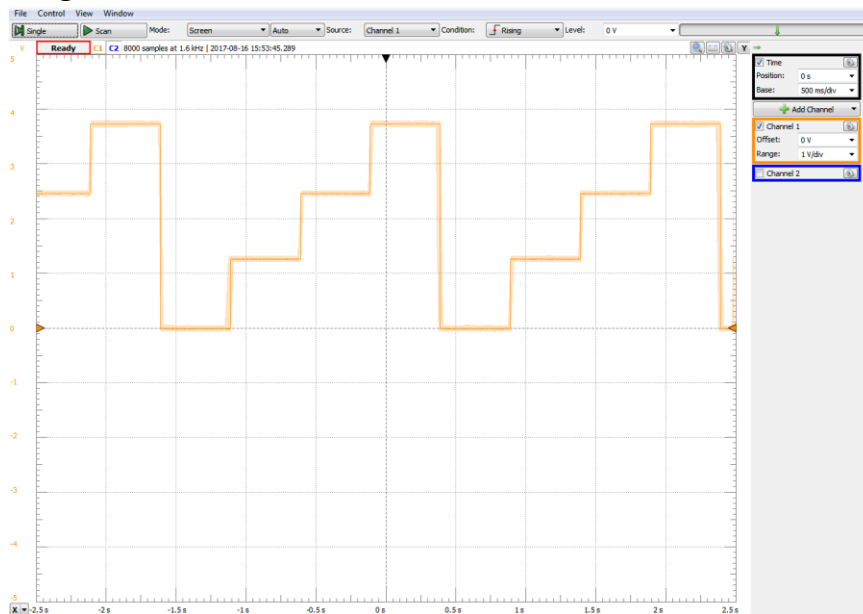

Figure 4.7: The desired output for the R-2R ladder circuit with the appropriate inputs.
- (a) The output should look like the Scope image in Figure 4.7. In this circuit, V_0 and V_1 serve as digital inputs, switching between on (5 V) and off (0 V). As you “count” from 0 to 3 in binary, the resistor network creates proportional voltage steps at the output. This means that the output voltage represents the binary input as an analog voltage level between ground and 5 V, with each step increasing based on the weighted contributions of V_0 and V_1 .